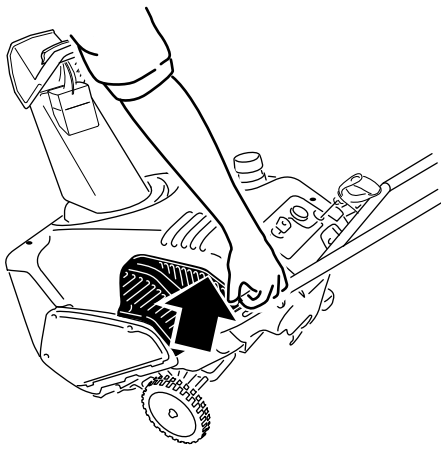

Figure 29
- Lift up on the left rear corner of the shroud and pull the exhaust baffle down and out of the engine compartment (Figure 29).